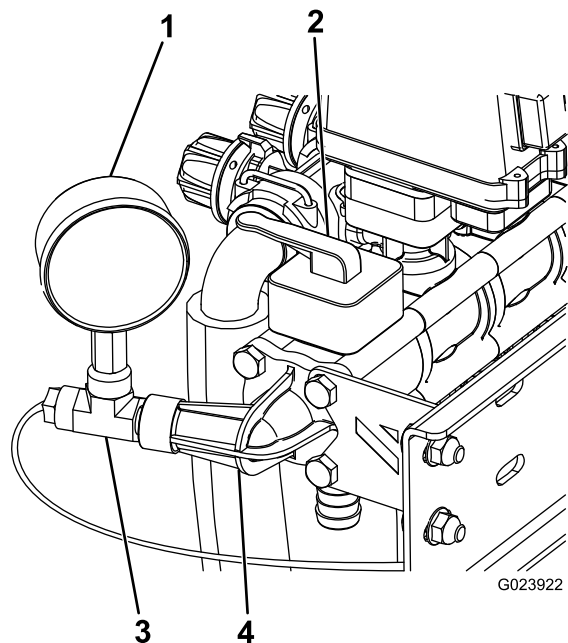

Figure 11
3. Install the O-ring, the new control valve, and the previously removed pressure-gauge port, and stabilizing bracket using 4 long bolts; refer to Figure 11.